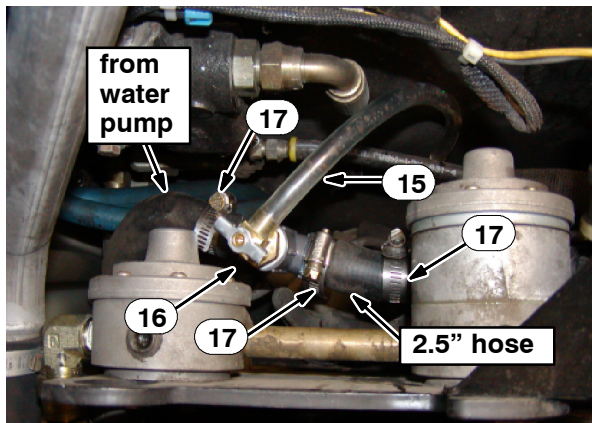

FIG. 20
43. Cut 2.5" from the end of the hose (K) just removed from the LPG vaporizer.
44. Use a hose clamp (17) to connect the 2.5" hose cut in the previous step to the plastic tee fitting (16). Refer to Fig. 20.
45. Use another hose clamp (17) to connect the other end of the 2.5" hose to the LPG vaporizer. Refer to Fig. 20.
46. Use another hose clamp (17) to connect the loose end of the hose from the engine water pump to the plastic tee fitting (16). Refer to Fig. 20.
47. Attach the 13" clear PVC hose (15) to the draincock. Be sure to route the loose end of the PVC hose behind the hydraulic hoses. Refer to Fig. 20.